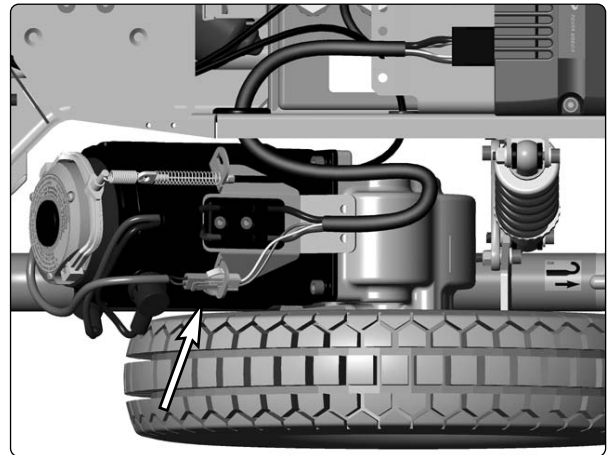

Fig. 44. Magnetic wheel lock electrical connection.
5. Connect the magnetic wheel lock's electrical connection; see figure 44.